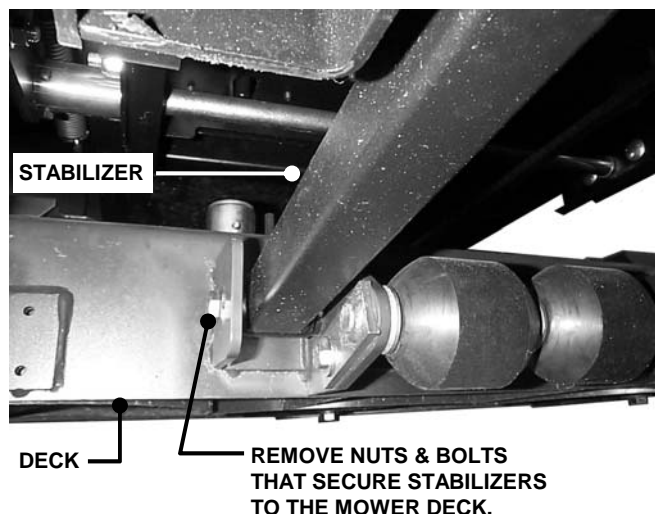
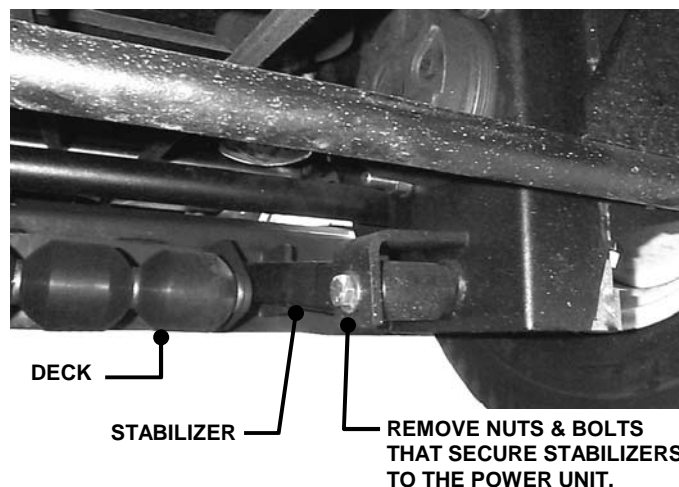

FIGURE 4.12
FIGURE 4.13
7. Remove bolts and nuts to disconnect both stabilizers from mower deck and power unit. See Figure 4.12 & Figure 4.13.